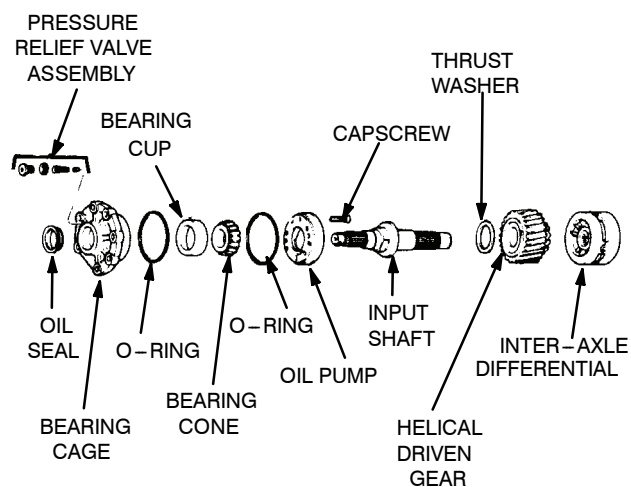

Figure 83.
- (1) Apply the lubricant used in the axle housing to the parts as they are being assembled.
- (2) If removed, install the bearing cup in the input bearing cage. Use a press and a sleeve to install the cup in the cage. The cup is correctly installed when the bottom of the cup touches the bottom of the bore in the cage. Figure 83.